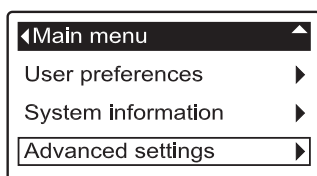

FIG. 17
2. From any of the rolling status screens, press the conditioner/refiner's SELECT (O) button to display the **Main menu**.
3. Press the conditioner/refiner's DOWN (▼) button to scroll through the menu options until **Advanced settings** is highlighted (See Figure 17).